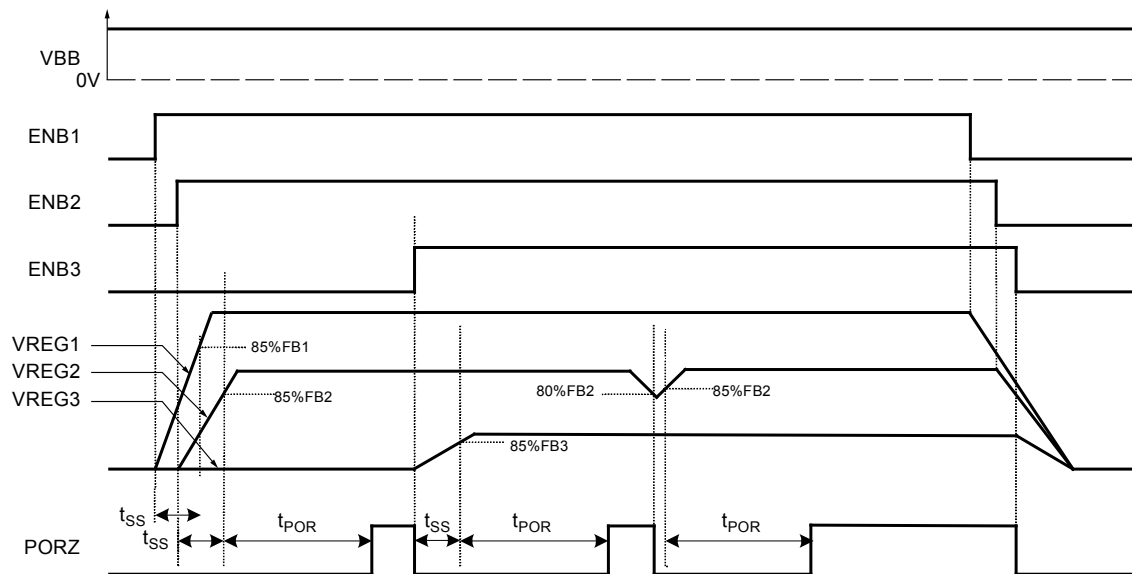

Figure 2. Timing diagram for powering up and down using the ENB pin
**Powering Up and Down with Enable** Referring to figure 2,  $V_{BB}$  is present and the UVLO start-up thresholds,  $V_{BBUV(su)}$  and  $V_{BBCPUV(su)}$  have been reached. Each of the regulators are enabled in turn. Initially, VREG1 is enabled and is brought-up under the control of the soft start circuit ( $t_{SS}$ ). Before VREG1 reaches 85% FB1, VREG2 is enabled and is brought-up under a separate soft start control.